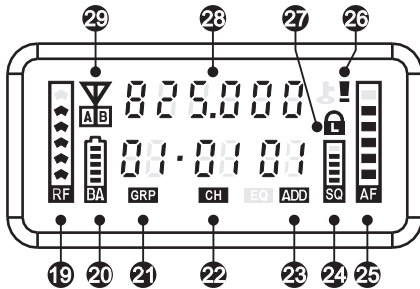

Fig. 8
1. VFD Screen displays functions and parameters. Fig. 8: